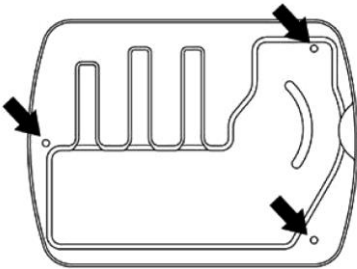

Fig. 3
2. Secure tool with the 3 holes on the base. (Fig. 3)
4. Attach the work stop (D) to the guide rail (C) and tighten.